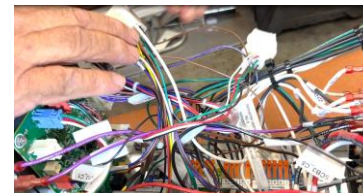

Figure 17
21. Lay the wires towards the front of the box out of the way (see Figure 17). **NOTE: Use caution working around the VFD capacitors. They still may store a charge and pose a shock hazard.**